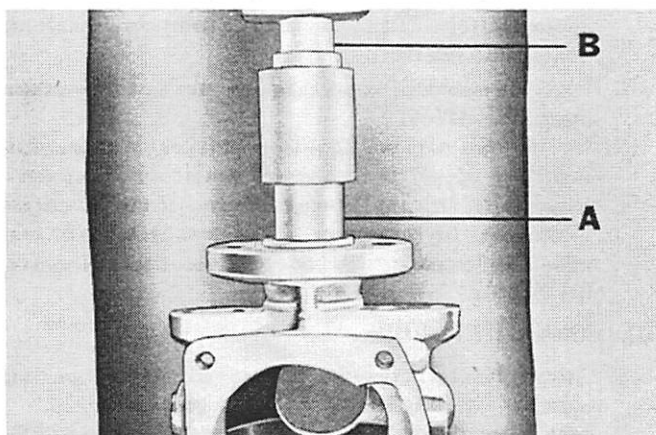

Figure 10. Replacing Roller Bearings (Top)
5. Replace 2 cartridge roller bearings in top of crankcase with Bearing Drift (91-24143). Place one of cartridge bearings into top of crankcase with crankcase setting on opposite (bottom) end on bed of arbor press. (Figure 10)